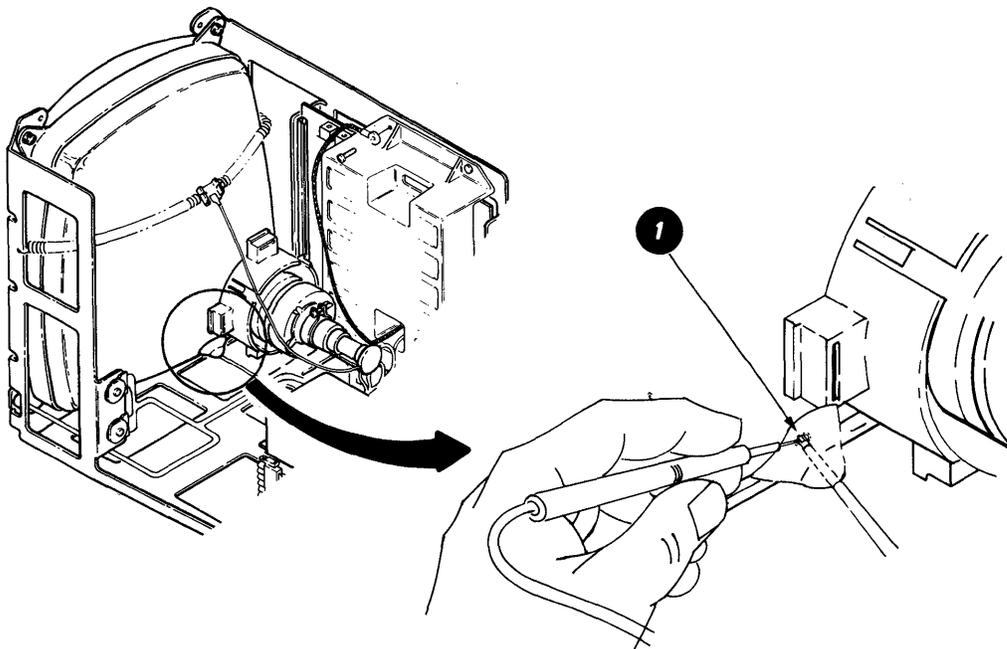

Figure 4-11. Anode Boot
6. Push the probe end of the meter lead under the boot on the anode **1**. Visually ensure that the probe tip touches the metal prongs on the anode lead. (See Figure 4-11.)